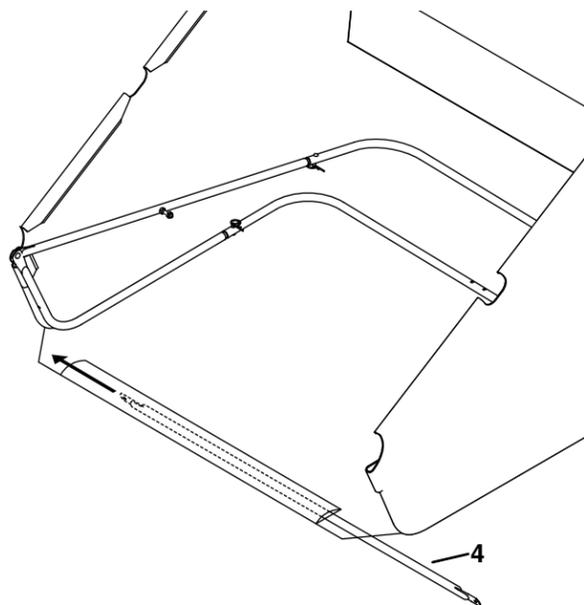

Figure 11
STEP 11 (SEE FIGURE 11): Slide the bag frame tube (4) through the front flap of the hopper bag.